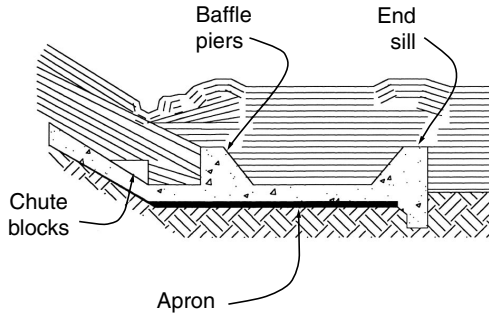

FIGURE S-12 Stilling basin.
**Stilling basin** A basin (structure or excavation) designed to increase tailwater depth and reduce the velocity or turbulence of water from an outfall, spillway, chute, etc. It may consist of a level apron at the foot of the structure with chute blocks, baffle piers, and an end sill. Sometimes called **stilling bay** or **stilling box**. *See* Figure S-12.